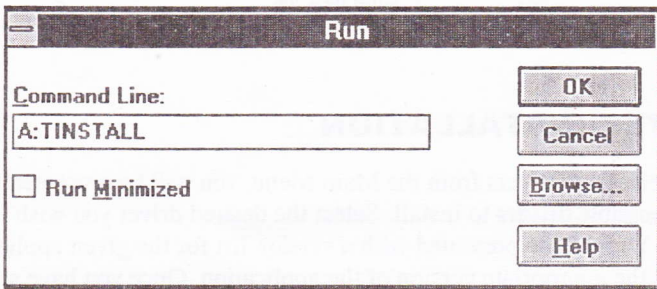

FIGURE 1.
5. Type in A:TINSTALL (if the display driver disk is in the B drive then type in B:TINSTALL) and then press ENTER (see Figure 1).